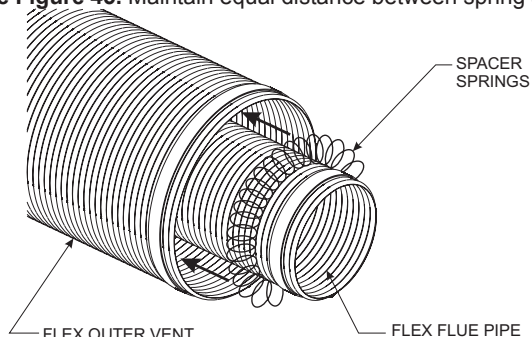
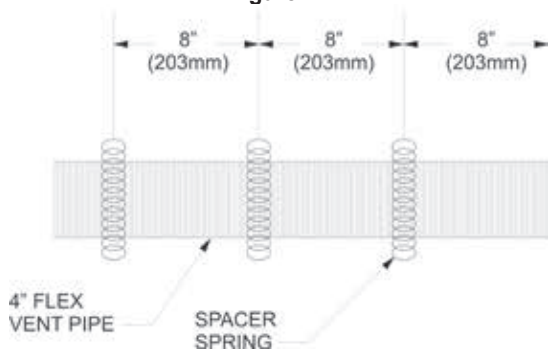

Figure 44
Figure 45
2. Check to see that the vent spacer springs are located around the flue vent at 8" and 12" intervals along its length. See Figure 44. If not, stretch the spacer springs to about 15" long and wrap them around the flue, then interlock the ends of each spring about 2". See Figure 45. Maintain equal distance between spring spacers.
Finishing The Wall For DFQ41W Series, DFQ414BL Decorative Front With Finishing Materials Less Than 1 in. (25.4mm) Thick - Figure 45